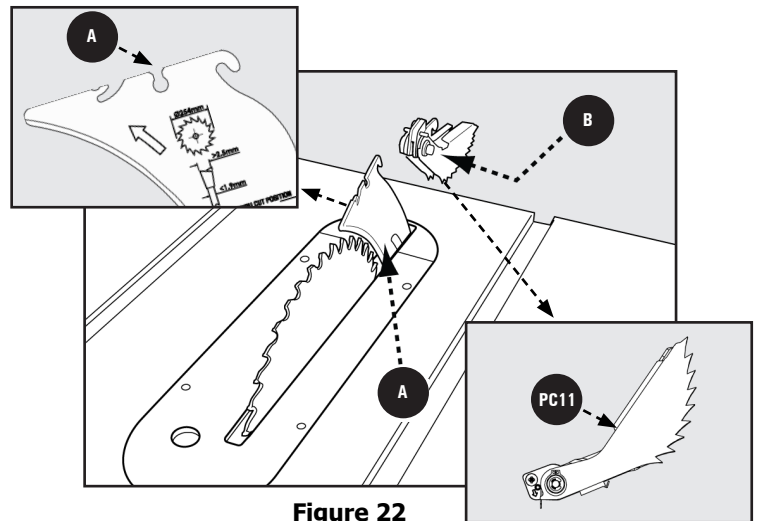

Figure 22
1. See Figure 22 and locate the Anti-Kickback Pawls Mounting Slot **A** in the middle of the top edge of the Riving Knife.